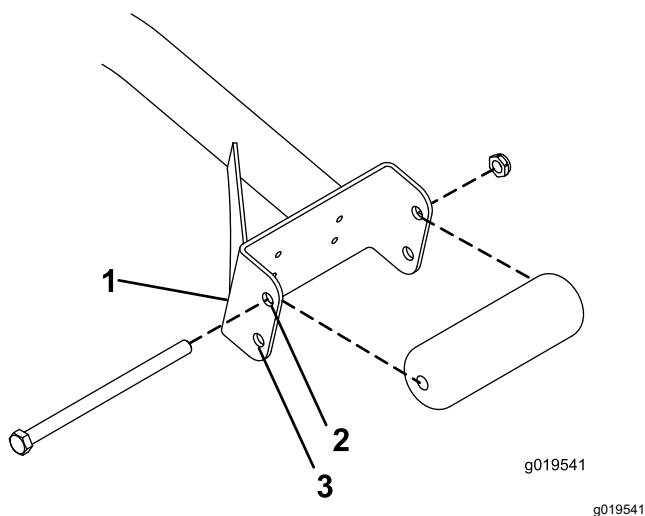

Figure 3
- If using 27 inch cutting units, the rollers are to be installed in the upper mounting holes of support assembly channels (Figure 3).
- If using 32 inch cutting units, the rollers are to be installed in the lower mounting holes of support assembly channels (Figure 3).